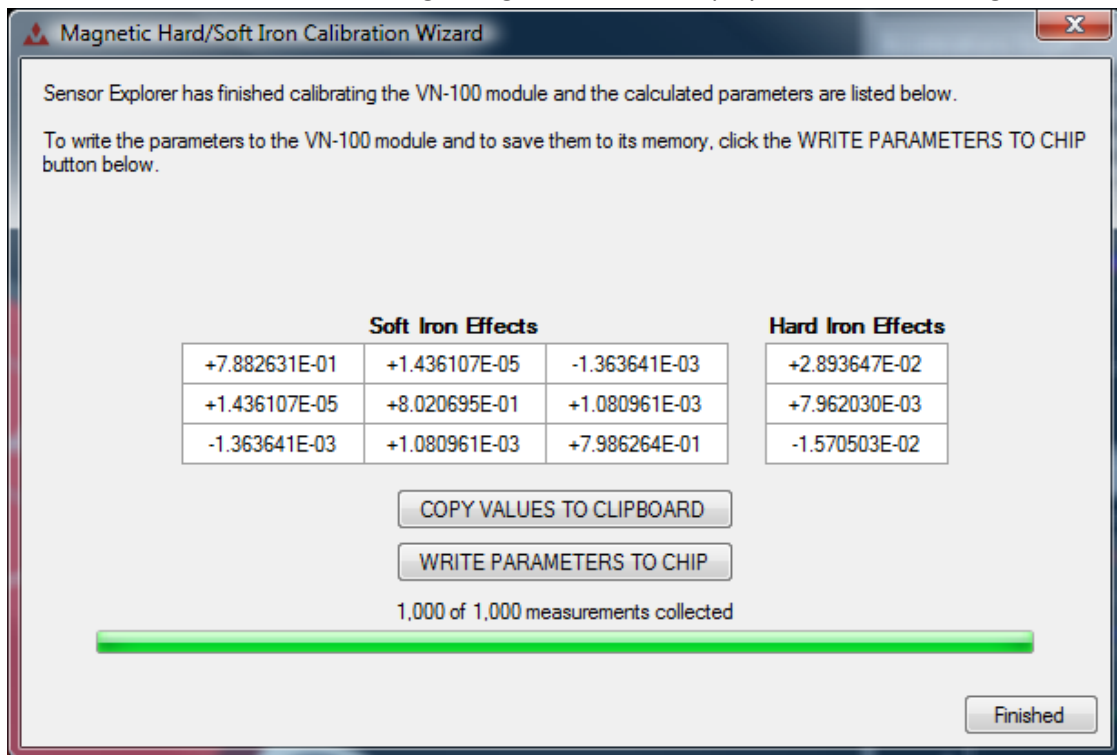

Figure 5
- c. When finished the following dialogue window is displayed here shown in figure 5.